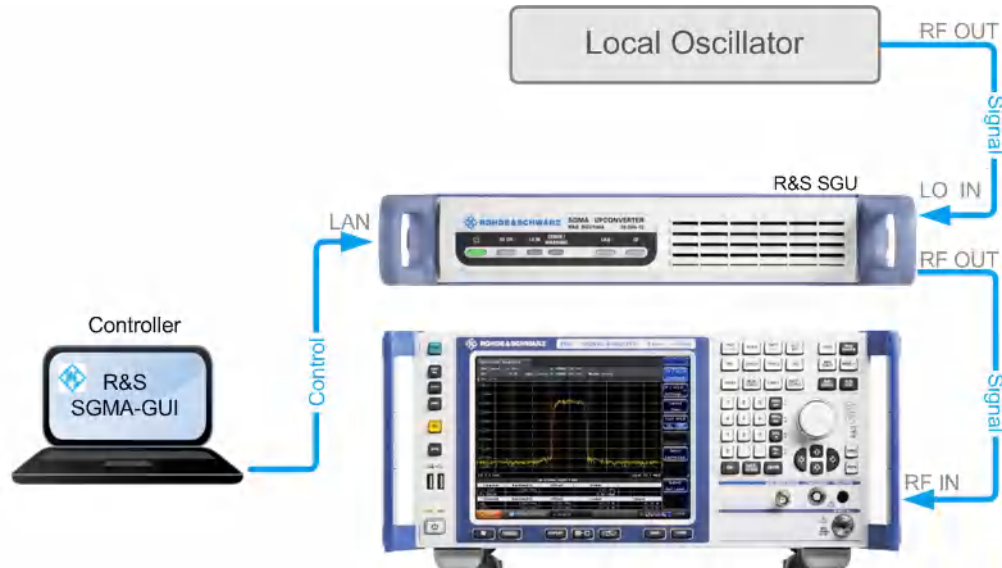

Figure 5-2: Example of a setup of the R&S SGU as an upconverter
1. Connect the test equipment as shown in Figure 5-2. Additional connections may be needed to fulfill the requirements of the connected local oscillator. To find out what connections are needed refer to its user manual.